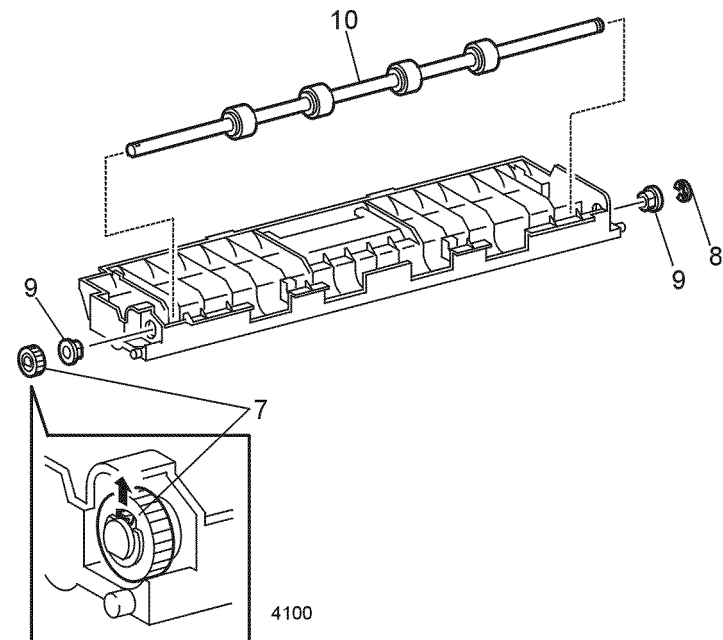

Figure 1 Turn Roll Assembly
8. Remove the E-ring from the right end of the shaft (Figure 1).
9. Remove both the right and left bearings (Figure 1).
10. Remove the shaft (Figure 1).